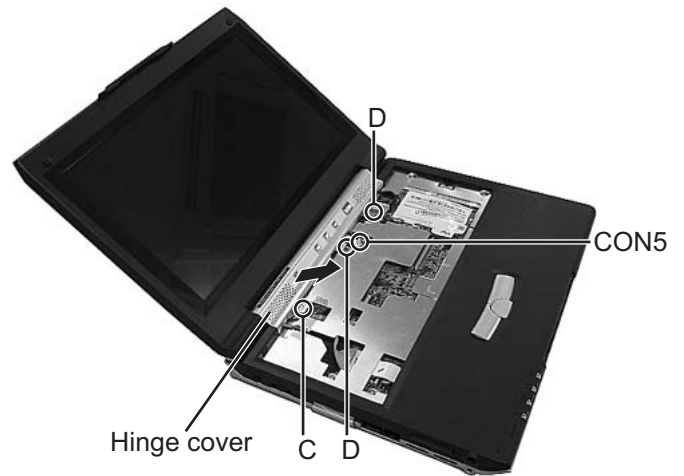
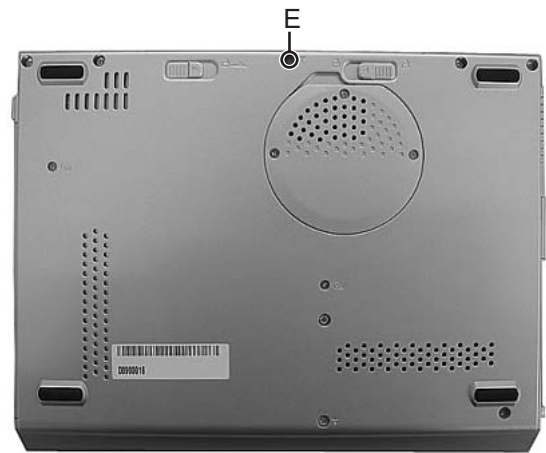
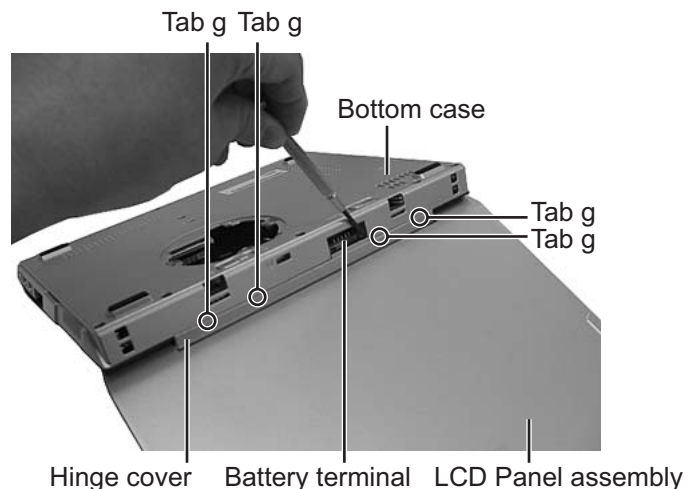

Fig.7
Fig.8
Fig.9
3.1.5 Removing the hinge cover(See Figure 7 ,Figure 8, Figure 9)